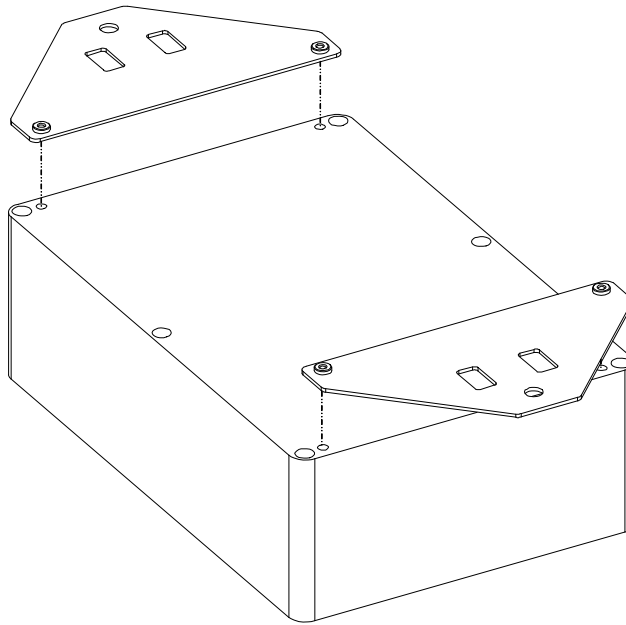

Figure 4. Attach mounting brackets
1. Align each mounting bracket to the back of the enclosure and secure with the Phillips panhead screws provided (see Figure 4).